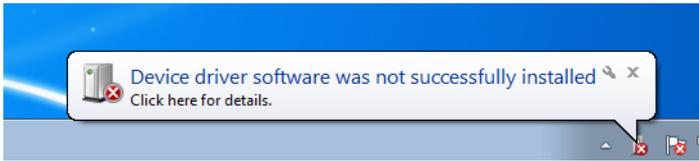

Figure E-2. When you plug in your Galileo for the first time, you can safely ignore this error message.
2. You may get an error saying that there was a problem installing drivers (Figure E-2). You can ignore this.